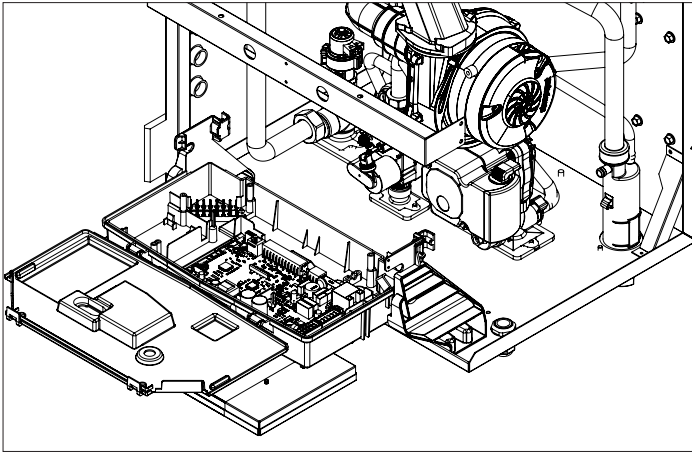

Figure 50 - Access to Low Voltage Wiring Connections
7. Open the control panel cover to have access to the main PCB. See Figure 50.